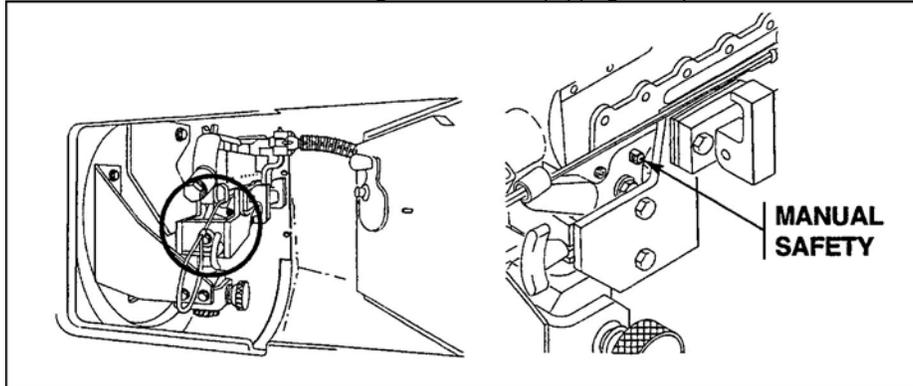
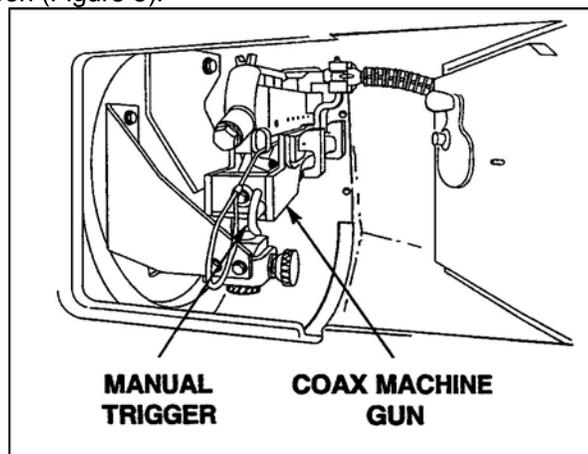

Figure 5. Manual safety.
Figure 8. Manual trigger.
- (2) Release the charging cable to ensure the bolt is locked into the rear position.
- e. Place the M240C coaxial machine gun on SAFE (S)(Figure 5).
- (1) Lift up the feed tray.
- (2) Observe the chamber for any ammunition.
- i. Place the M240C coaxial machine gun on fire (F)(Figure 5).
- (1) Press the manual safety lever to the left.
- (2) Ensure the F is visible on the left side of the lever.
- j. Dry fire the weapon (Figure 8).